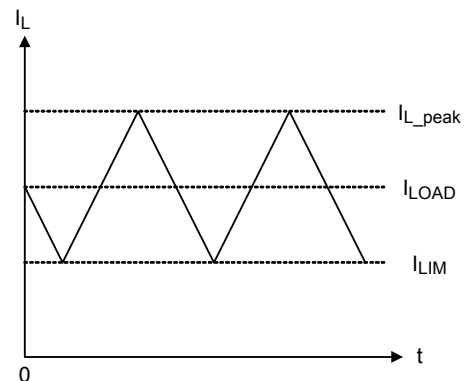

Figure 6. “Valley” Current Limit
The RT6543A/B provides a cycle-by-cycle current limiting function that is implemented by a unique “valley” current sensing algorithm. If the magnitude of the current sense signal at the CS\_DIS pin is above the current limit threshold, the PWM is not allowed to initiate a new cycle as shown in Figure 6. In order to provide both good accuracy and a cost effective solution, the RT6543A/B supports temperature compensation for MOSFET RDS(ON) sensing.